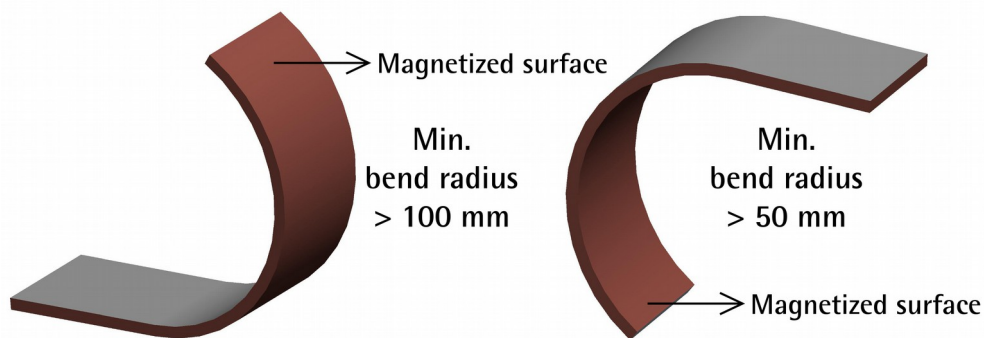

Figure 4 - Minimum bend radius
3.7.3 Mounting the tape on arcs and round surfaces (Figure 4)